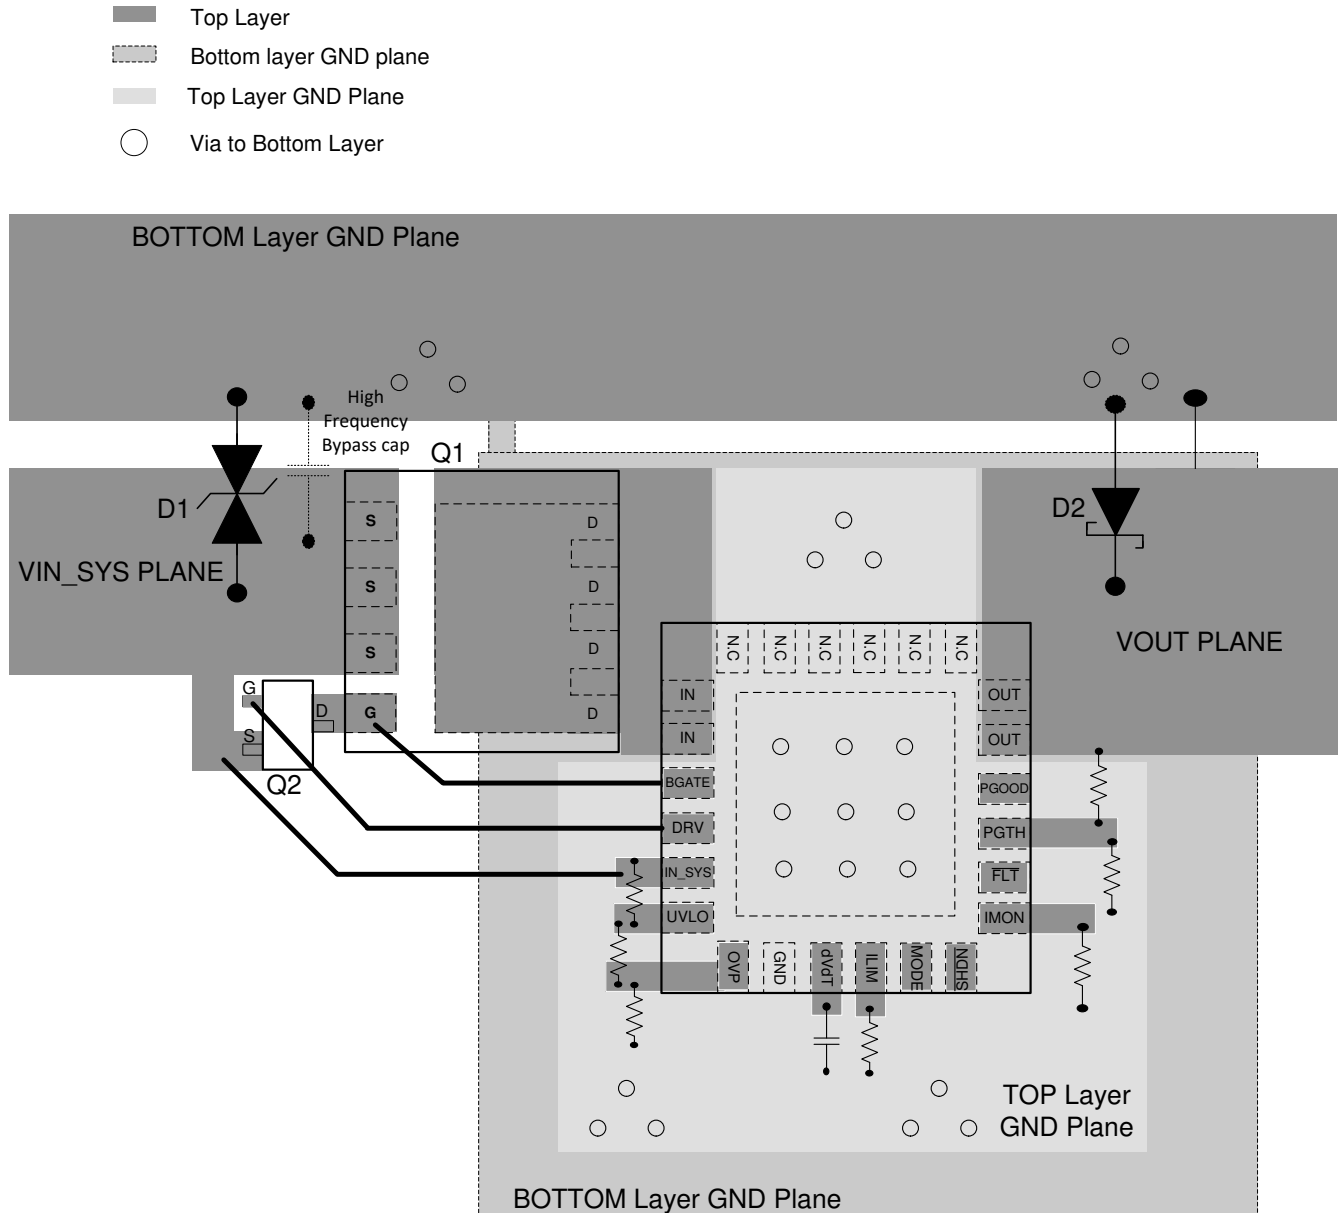
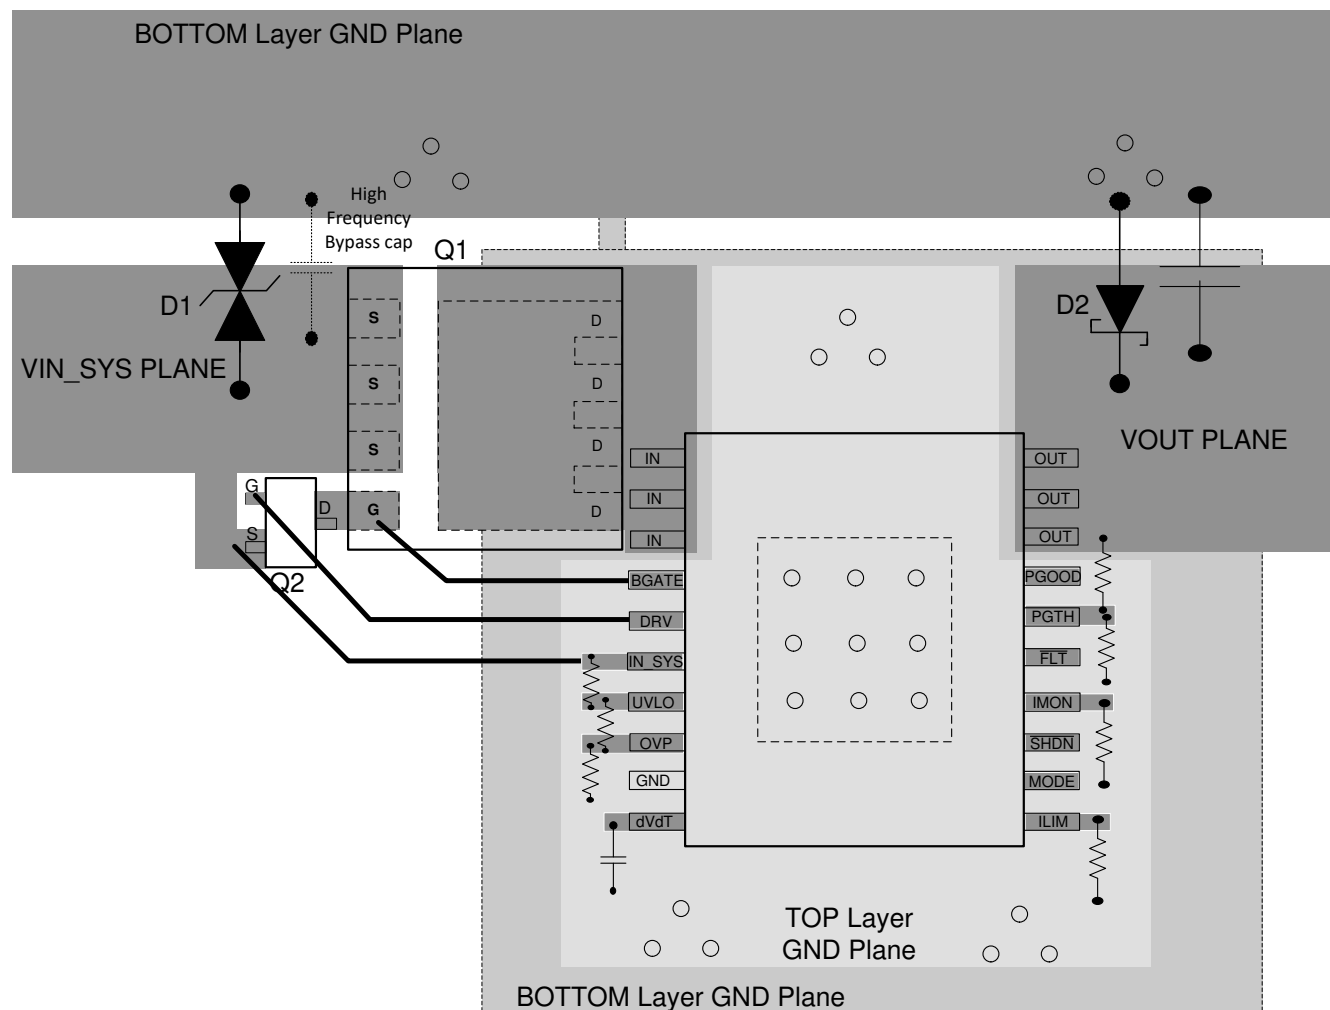

Figure 9-18. Typical PCB Layout Example with QFN Package with a 2-Layer PCB
Figure 9-19. Typical PCB Layout Example with HTSSOP Package with a 2-Layer PCB
- The external FET Q1 must be placed with DRAIN close to the V_{IN} pins of the IC and connected through a plane. The fast pulldown switch Q2 DRAIN and SOURCE must be placed very close to the GATE and SOURCE terminals of Q1 with very short loop. See Figure 9-18 and Figure 9-19 for a typical PCB layout example.